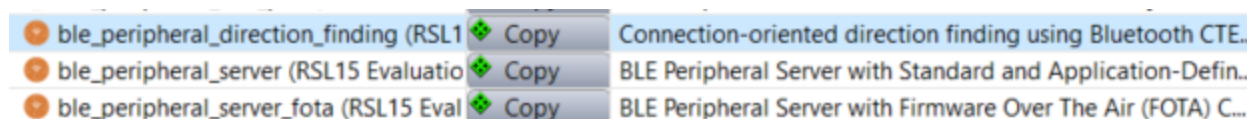

Figure 15. Bringing the Project Into the Workspace
1. Copy the *ble_peripheral_direction_finding* sample application into your workspace. The C/C++ perspective opens and displays your newly copied project, as shown below in the "Bringing the Project Into the Workspace" figure (Figure 15).